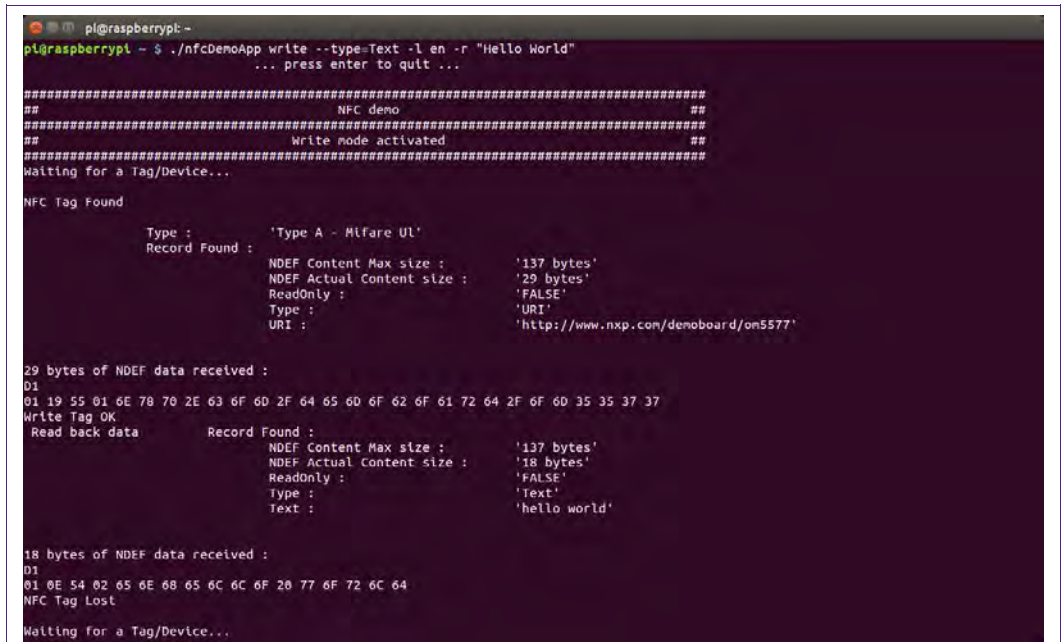

Fig 5. Linux demo application tag writing mode
- Fig 5. Linux demo application tag writing mode 13